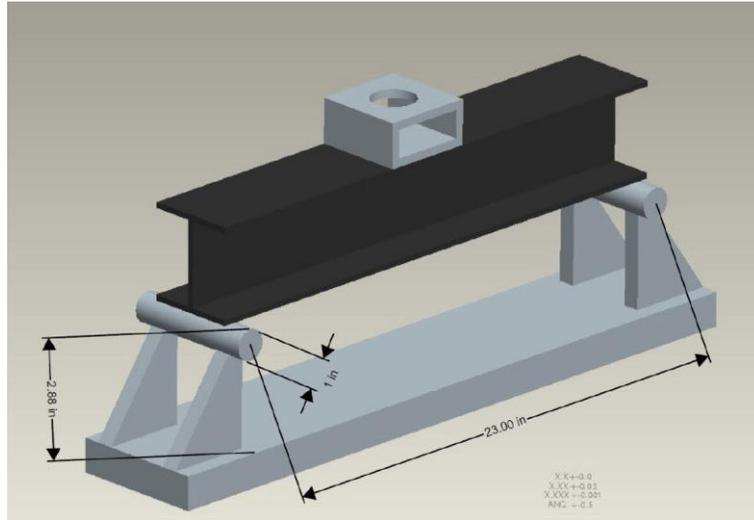

Figure 1: General Outline of Loading Fixture
2. Ref Figures 1,2, and 3 for fixture dimensions.